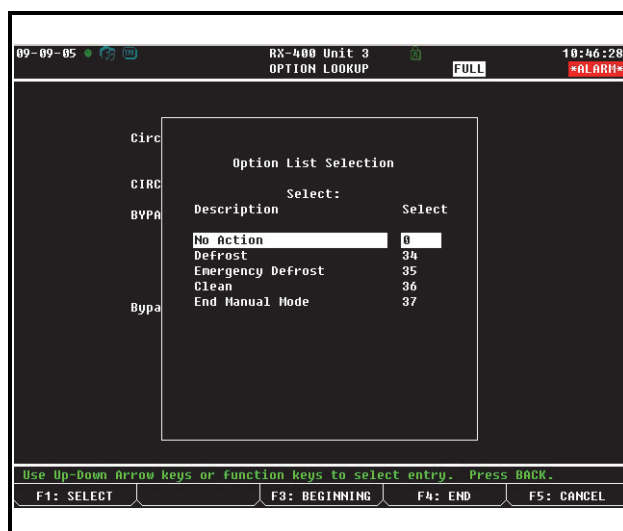

Figure 12-15 - Option List Selection Screen
5. Press **F4** **LOOK UP**. The Option List Selection screen (see **Figure 12-15**) will give you five choices of defrost modes.